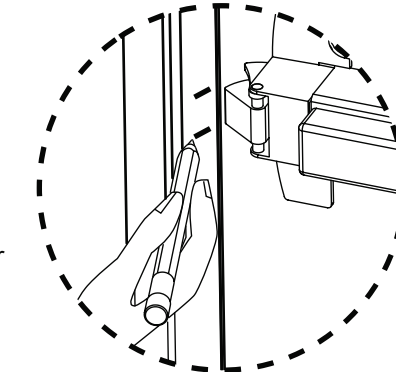

Figure 1
1. Mark the end position of the exit devices latchbolt on the doorframe. (Take off the original strike if present). See Figure 1.